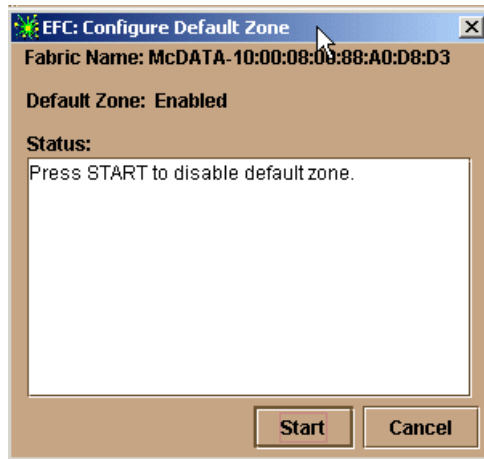

Figure 4-134 Disable default zone on ED-6064
1. **Disable Default Zone:** Select **Configure** —> **Advanced Zoning** —> **Configure Default Zone** and select **Start** to disable the default zone as shown in Figure 4-134.